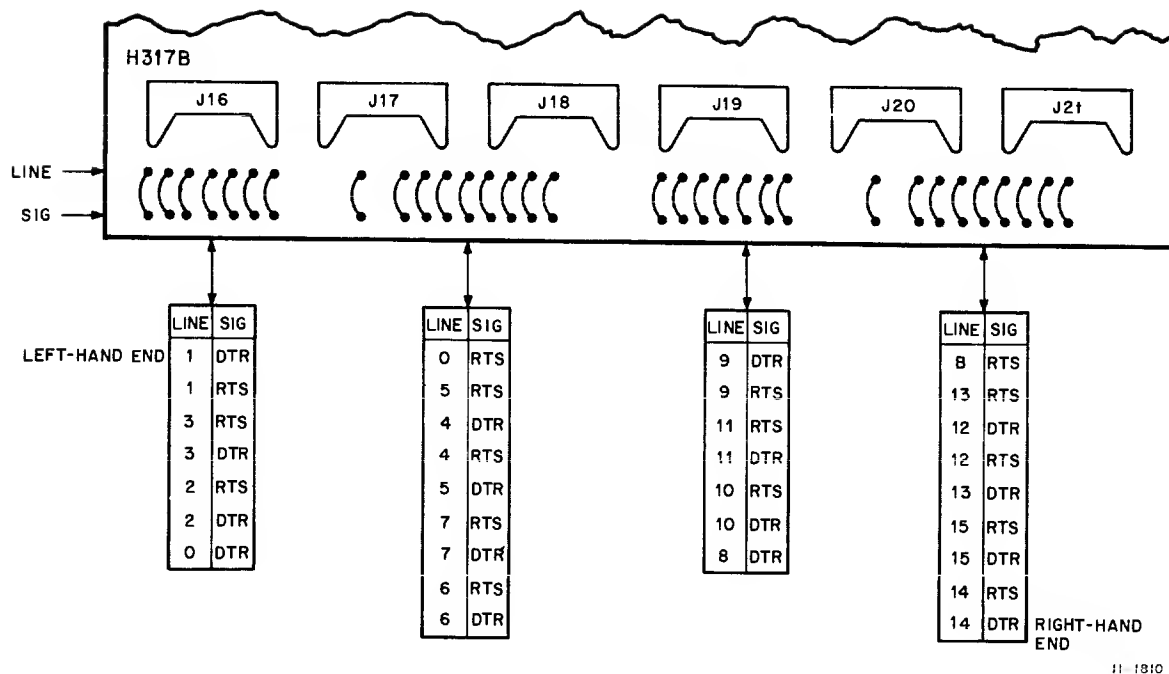

Figure 2-4 Strapping on H317B Distribution Panel
9. There are jumpers on the distribution panel that must be set. Refer to Figures 2-4 and 2-5 for particulars. These jumpers have to do with RTS and DTR strapping on the H317B Distribution Panel, and the Cinch connector strapping on that panel.